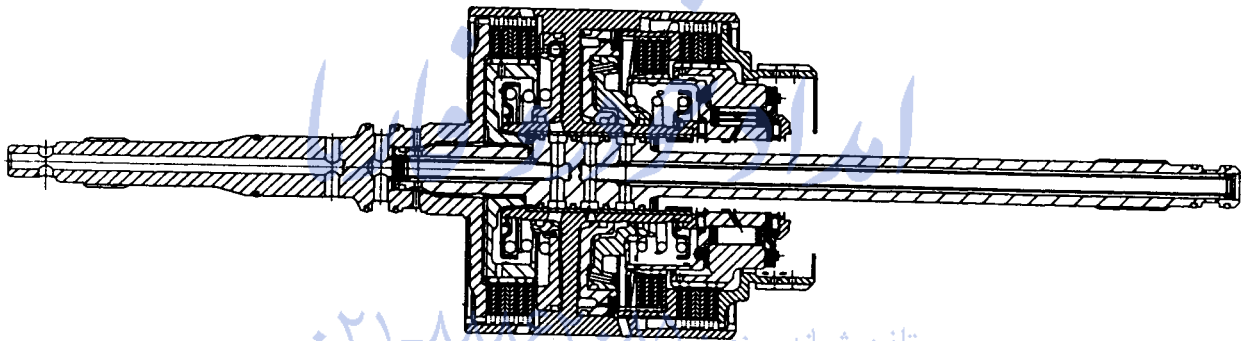

Figure 8.32 - C1, C4 and C2 Clutch
12. Assemble the C1/C2/C4 clutch assembly to the C3 clutch and sun gear assembly. Refer to figures 8.32 and 8.33.